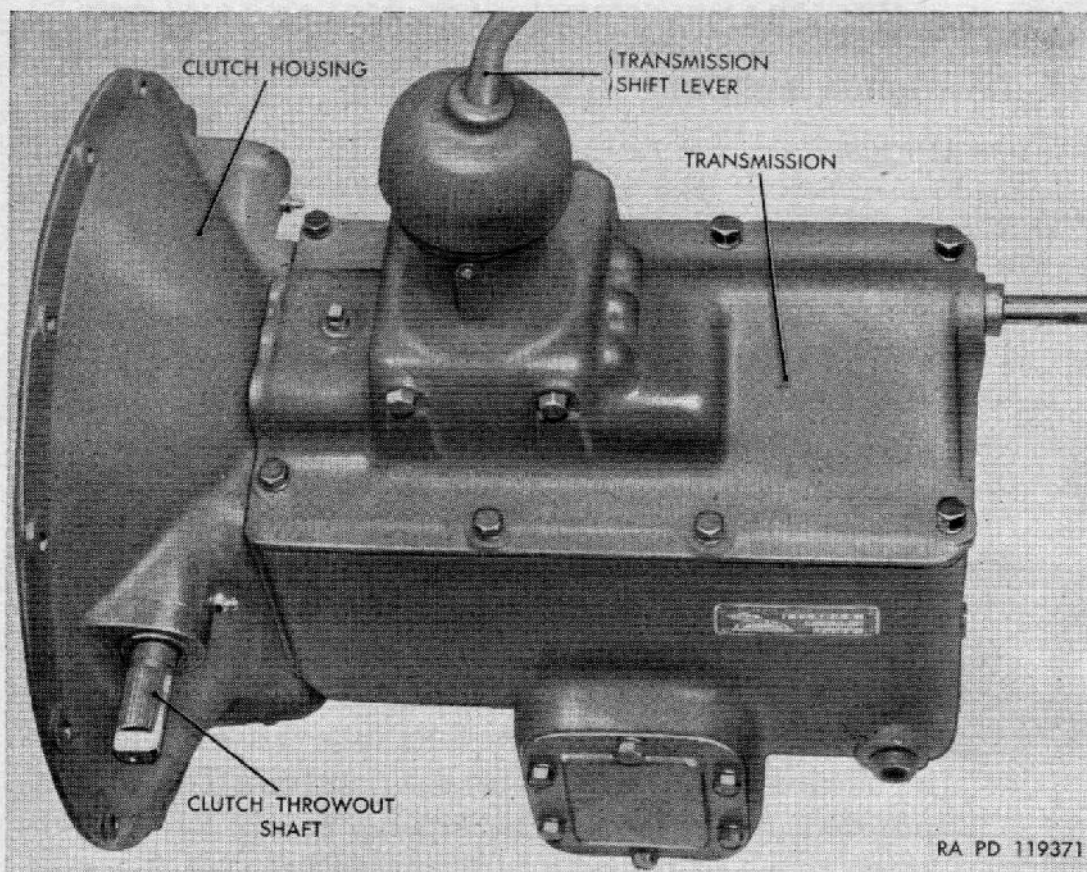

Figure 86. Transmission assembly.
(1) *Transmission.* The transmission assembly (fig. 86) is a manually shifted, selective gear type with five speeds forward and one reverse. The transmission assembly is mounted to and supported by engine-clutch-and-flywheel housing. Gear-shifting is by a conventional gearshift lever.
a. COORDINATION WITH ORDNANCE MAINTENANCE UNIT. Replacement of the transmission (fig. 86) with a new or rebuilt unit is normally an ordnance maintenance operation, but may be performed in
(2) *Remove transmission* (fig. 86). Support transmission and remove 12 cap screws holding transmission to flywheel housing. Pull transmission straight out from engine until clutch pilot bearing clears bearing in crankshaft. Clutch pilot must not take any unsupported weight of transmission. Remove and discard gasket.
c. INSTALLATION (fig. 86). Fill crankshaft cavity behind clutch pilot bearing not over 50 percent of volume with grease (GAA). Also lightly coat inside of bearing with same grease. Place a new gasket on flywheel housing, support transmission, and carefully align clutch pilot with pilot bearing in crankshaft. Enter clutch pilot in pilot bearing and push transmission into place. Guard against al-